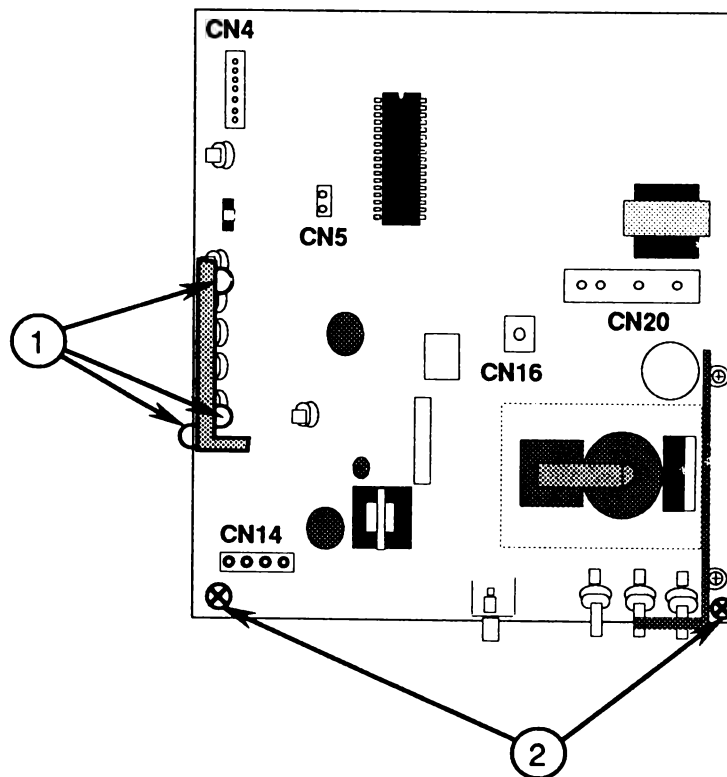

FIGURE 19
- a) Remove the two screws from the inside corners of the metal power supply bracket and the one remaining screw on the outside of the chassis frame (Figure 19, #1).
- c) Remove the two screws (Figure 19, #2) from the rear corners of the main logic PCB.